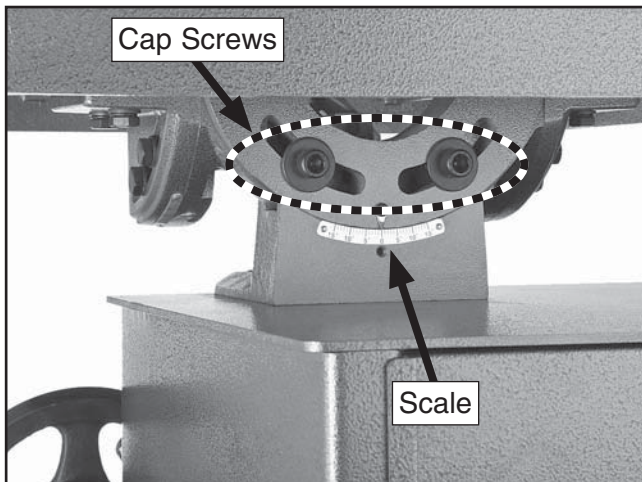

Figure 33. Side-to-side table tilt controls.
2. Loosen the two cap screws underneath the rear of the table (see **Figure 33**).
3. Using the scale shown in **Figure 33** as a guide, adjust the table tilt and re-tighten the cap screws to secure the setting.